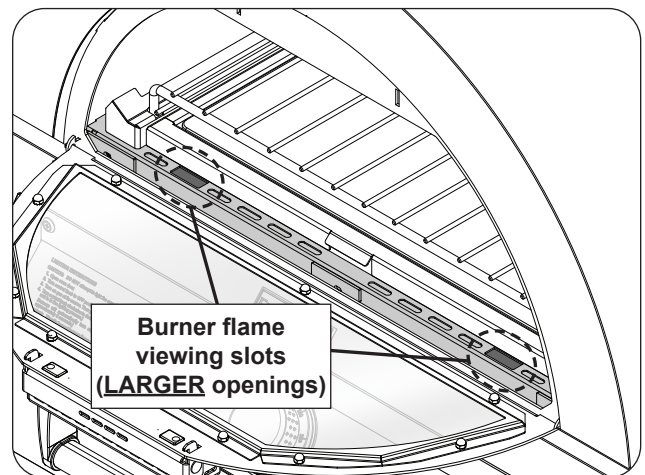

Fig. 35-2 Burner flame viewing slots
**Important:** Visually inspect the burner flames via the two rectangular flame viewing slots (see Fig. 35-2).
**CAUTION:** If the burners do not light within ten (10) seconds of turning on the control knob, turn it to the **OFF** position. WAIT FIVE (5) MINUTES before repeating step 4. If you smell gas, follow the instructions on the cover of this manual. If the burners still do not light after several attempts, turn the system **OFF** and contact a qualified professional service technician.